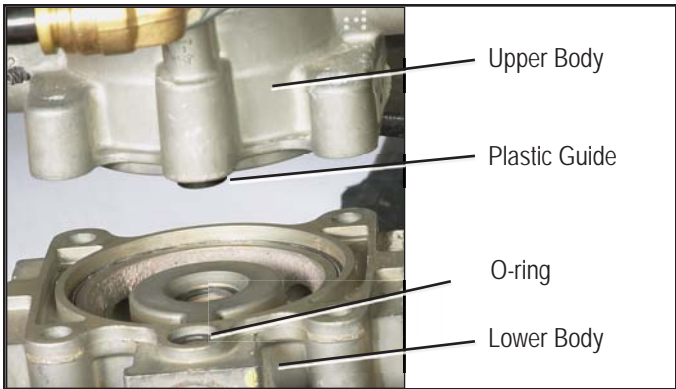

Figure 5 - *PLASTIC GUIDE AND O-RING SEAL*
- Locate the plastic guide in the upper body of the SR-7™ valve directly above the supply port. The o-ring seal from the lower body may stick to the plastic guide when the bodies are separated. If so, remove it from the guide and place it back into the lower body. An extra o-ring has been included in this kit in the event that the o-ring is lost or damaged during servicing. Refer to Figure 5.